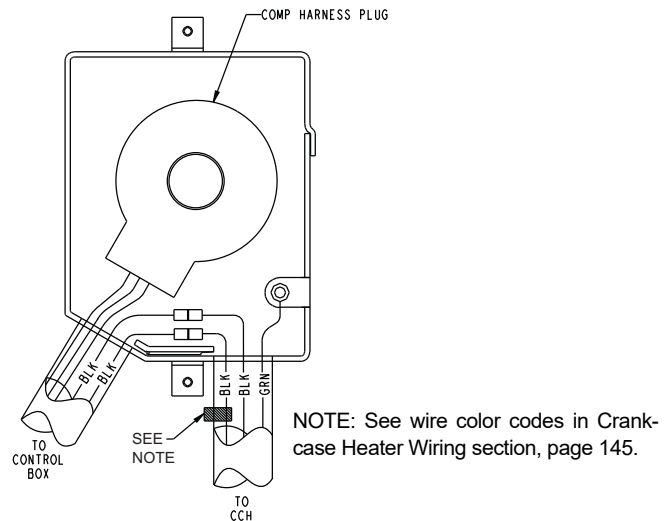
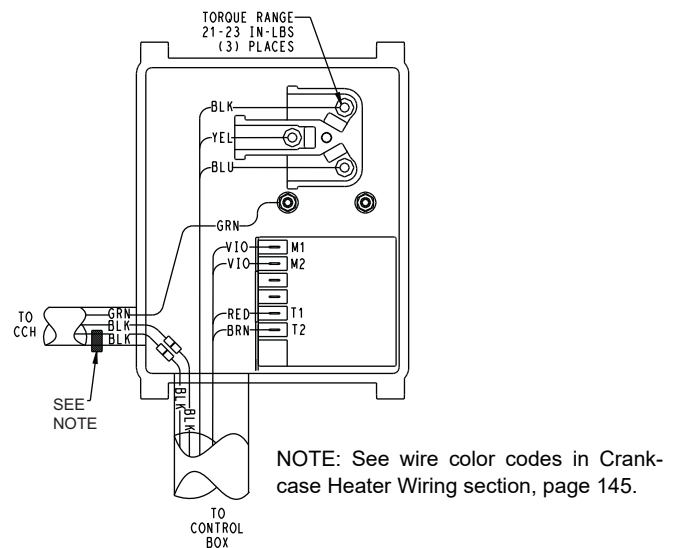

Fig. 151 — Compressor Junction Box Without Motor Protection Module
Fig. 152 — Compressor Junction Box With Motor Protection Module
2. Remove the junction box cover and disconnect the compressor power and ground connections. See Fig. 151 or 152.
24. For compressors with the motor protection module, wire the power wiring and control wiring as shown in Fig. 152. A 120/240-volt module is installed and a 24-volt module is shipped with the compressor. Replacement compressors with CoreSense modules are shipped with a voltage specific solid-state motor protection module. The 38RC units require the 24-volt module be field installed. Failure to install the 24-volt module will result in a compressor failure alarm. For compressors without a motor protection module, install the motor plug by hand only. See Fig. 151.
Crankcase heaters are specific to unit voltage. Each crankcase heater has a color-coded tag to indicate voltage. Table 84 identifies tag color code for each voltage. See Fig. 151 and 152 for compressor junction box connection information